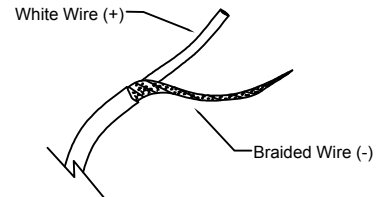

FIGURE-03
- Separate the two wires and tangle the braided wire. See FIGURE-03.